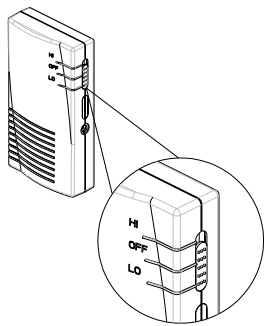

FIGURE 2a
Step 1: Set the 3-position slide switch to "LO". (FIGURE 2a)